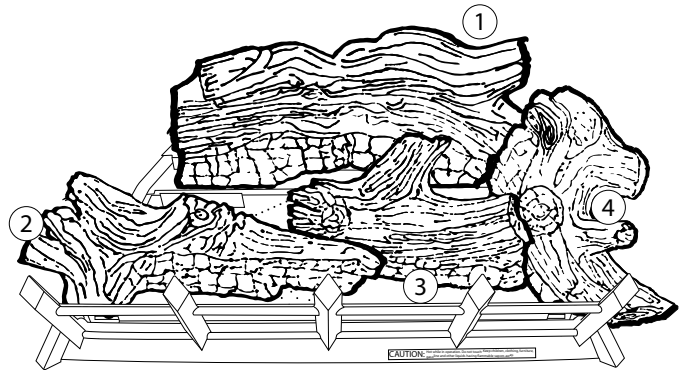

Figure 48
4. Place the right log (#4) on the bar located on the right side of the burner. (See Figure 48.)